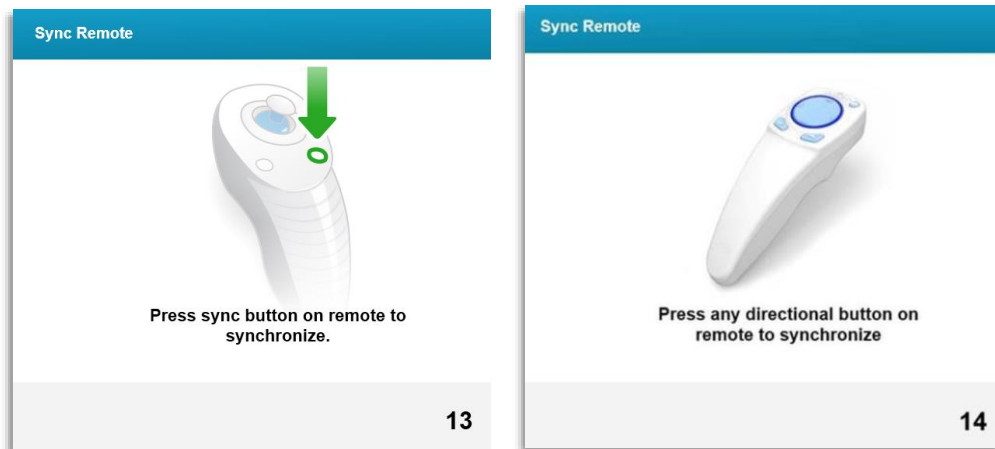

Figure 3-16. Sync Remote
- o If the user has the treatment card inserted while programming treatment parameters that are outside the allowable value(s) controlled by the RFID card, the following message will appear and “Perform treatment” will be unable to be selected as shown in Figure 3-16.
- o The Sync alignment remote message will be visible on the screen for 15 seconds as shown in Figure 3-16.